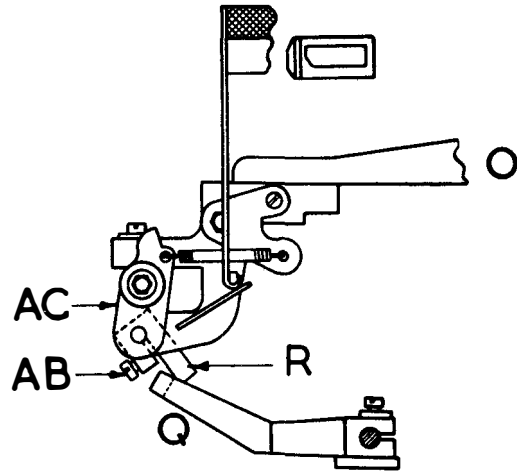
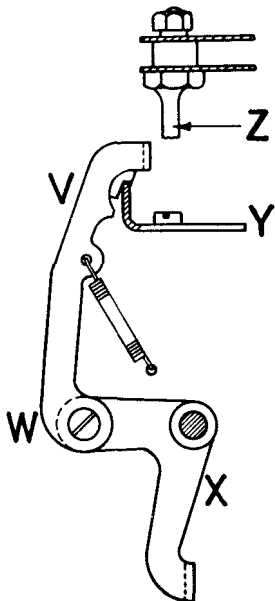

FIGURE 28G
FIGURE 28H
- 20D.2 Slacken screw W, Fig. 28H, and by means of the slotted hole in the drop lever X, adjust the height of the latch lever V so that it engages with the rack Y with a small overshoot. Tighten screw W.
- 20F.1 Slacken screw AB, Fig. 28G. Withdraw the function cam detent and turn the machine by hand until the traversing link O is fully advanced.
- 20F.4 Check that, when the latch lever V, Fig. 28H, resumes its 'down' position after being unlatched by the pin Z, arm R, Fig. 28G, clears the trip lever Q by at least $\frac{1}{32}$ " (8 mm.) when the traversing link is fed forward.